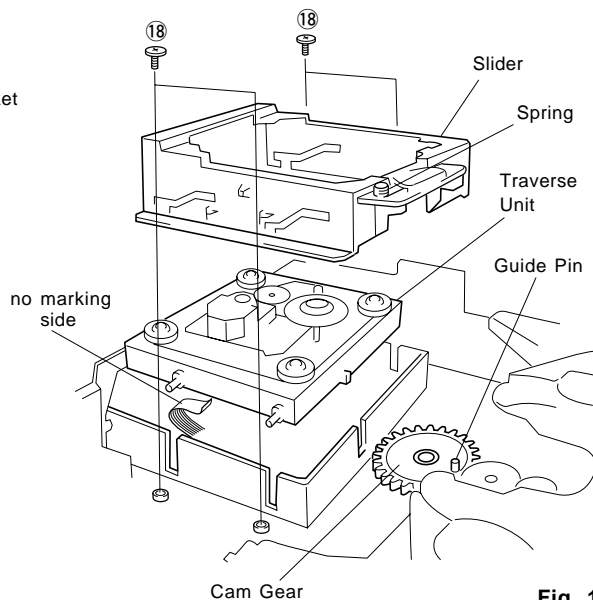

Fig. 12
- Remove 4 screws (18) and take out the Slider in Fig. 12.
- Remove the Traverse Unit in Fig. 12.
- Turn the Cam Gear until its Guide Pin comes to the position as shown in Fig. 12.